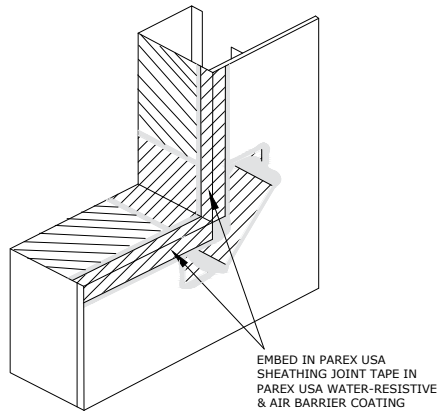

Fig. 13.4
4. Fold the bottom flap down over the sheathing. Fold the end flaps against the sheathing (Fig 13.4).
5. Repeat Step 3 for the jambs by coating the jambs with WeatherSeal and installing a piece of Sheathing joint tape to the jamb and wrapped at least 2 in. (51mm) onto the sheathing such that it laps the sill piece and continues up past the head opening at least 4 in. (102mm) (Fig 13.4).